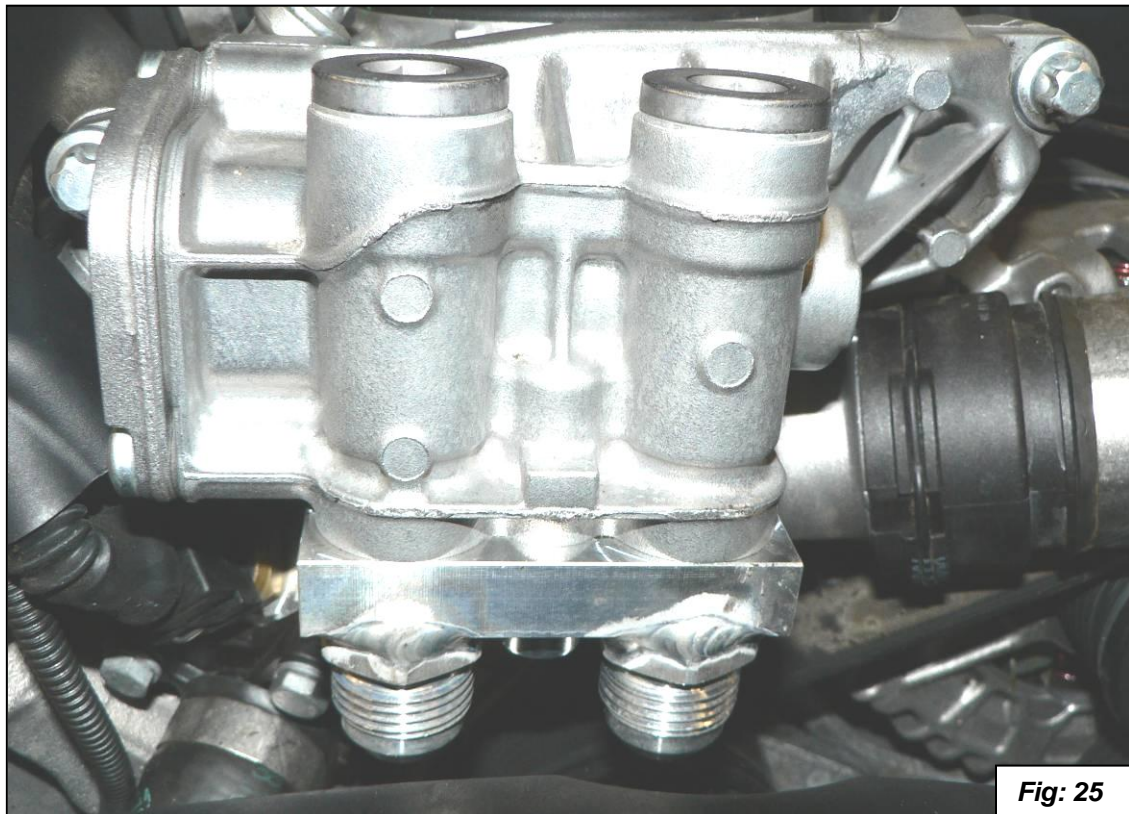

Fig: 25
26. Install the oil line adapter block onto the oil filter thermostat housing. Make sure the O-Rings don't get pinched as you install the block. Torque the bolt to 20Nm (15ft-lbs.). See figure 25.